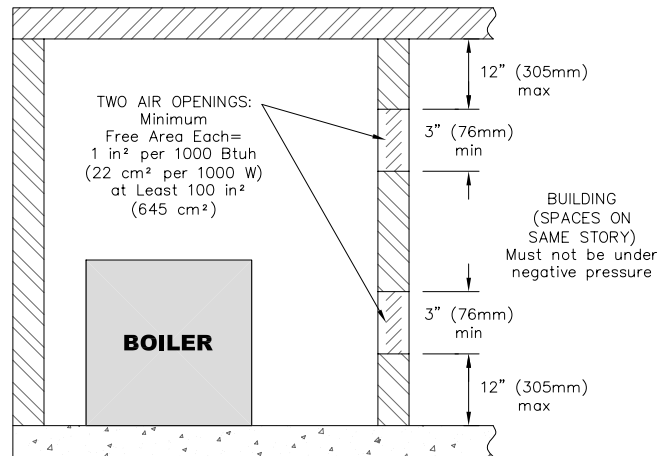

Figure 1.1: Air Openings – All Air from Indoors on the Same Floor
a. **Combining spaces on the same floor:** Provide two permanent openings communicating with additional spaces that have a minimum free area of 1 in² per 1000 Btu/hr (22 cm² per 1000 W) of the total input rating of all gas fired equipment but not less than 100 in² (645 cm²). One opening is to begin within 12 inches (305 mm) from the top of the space and the other is to begin within 12 inches (305 mm) from the floor. The minimum dimension of either of these openings shall be 3 inches (76 mm). See Figure 1.1 for an illustration of this arrangement.